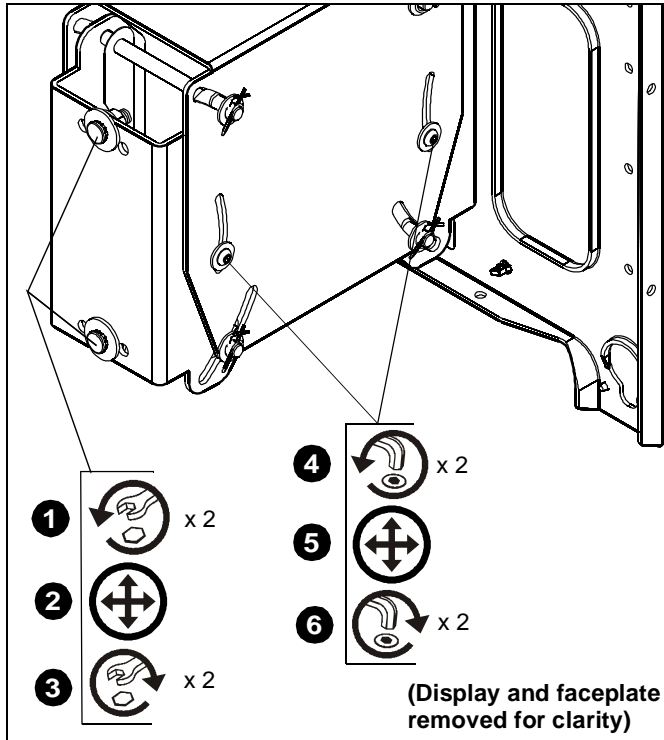

Figure 5
1. Loosen two Nylock nuts inside the PDC. (See Figure 5)
4. Loosen two screws on side of PDC. (See Figure 5)